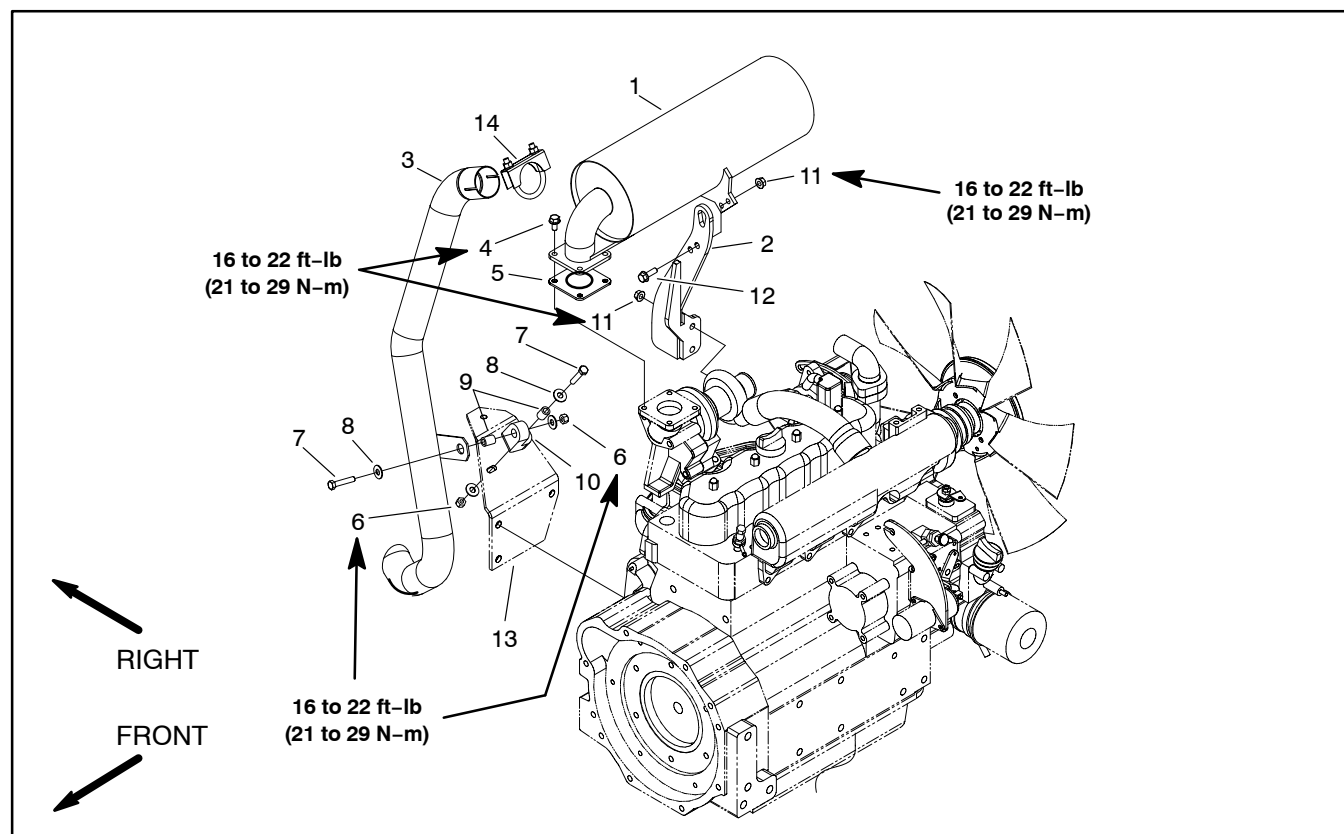
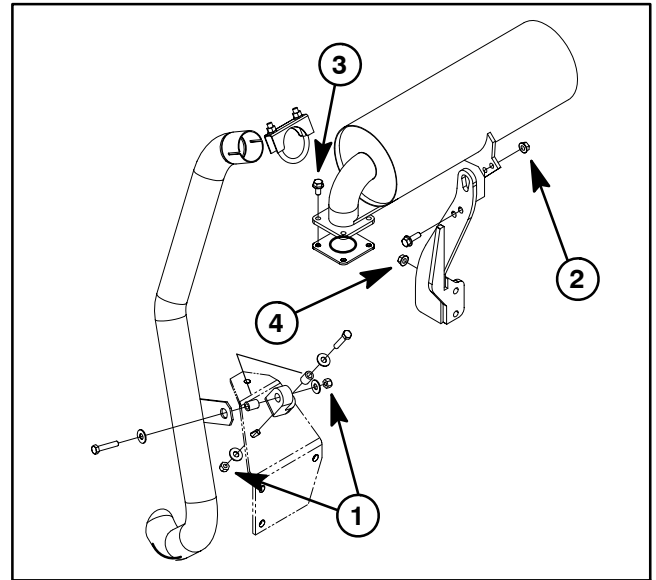

Figure 5
Figure 6
2. Remove muffler and/or muffler bracket from the engine as necessary using Figure 5 as a guide.
2. Install muffler and/or muffler bracket to the engine using Figure 5 as a guide. Hand tighten and then torque the following fasteners from **16 to 22 ft-lb (21 to 29 N-m)** in the sequence listed (Fig. 6):